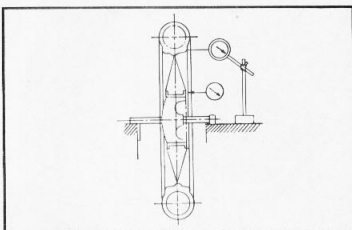

Figure 4-20. Measuring wheel runout
- (1) Inspect the rim for runout and eccentricity. (Fig. 4-20)